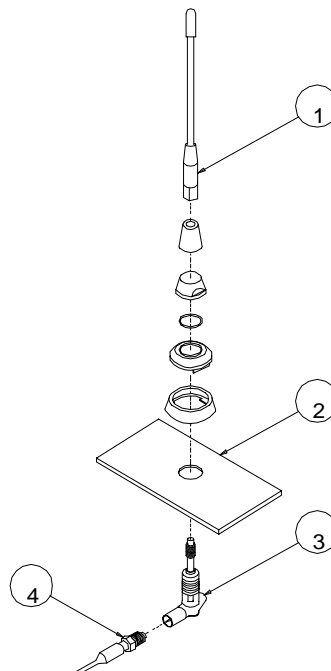

Figure 2.4: Standard External Antenna
3. Assemble the antenna according to Figure 2.4: Standard External Antenna.